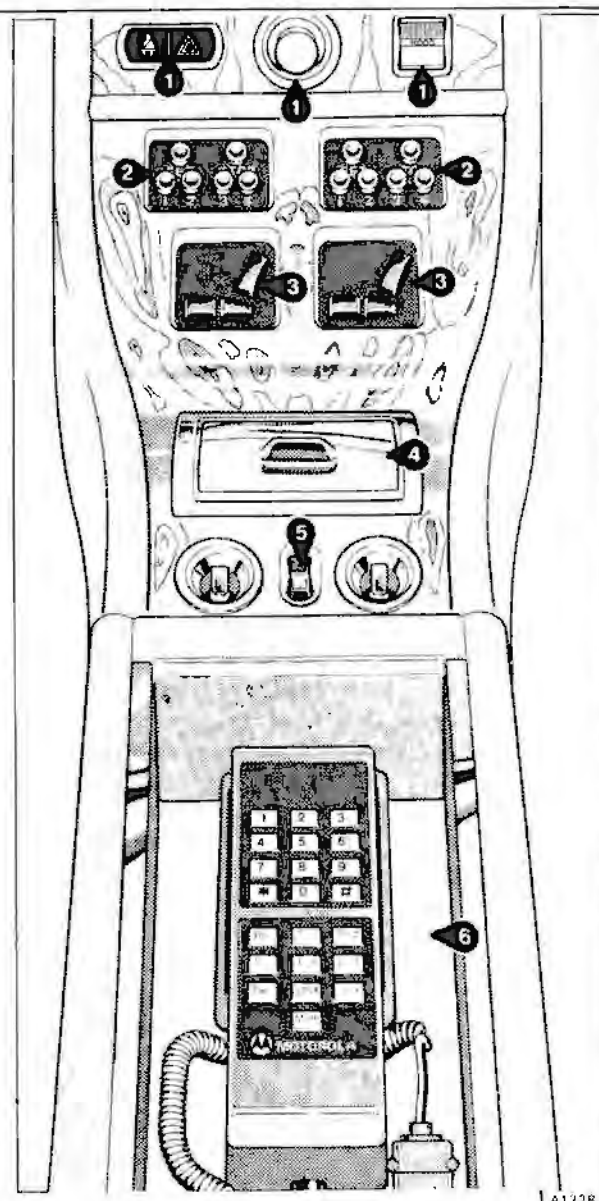

Fig. 3 Centre console (North America)
On North American specification built motor cars, the centre console now extends from the facia knee roll to inbetween the front seats (see fig. 3). The new styled console now incorporates the following.
- 4 New styled seat switches have been introduced. The switches are of an analogue design and are situated in the forward section of the centre console (see fig. 3).
The memory control switches are positioned in the centre console, directly above the analogue seat switches (see fig. 3). The electronic memory control unit is situated in the centre of the front seat base.